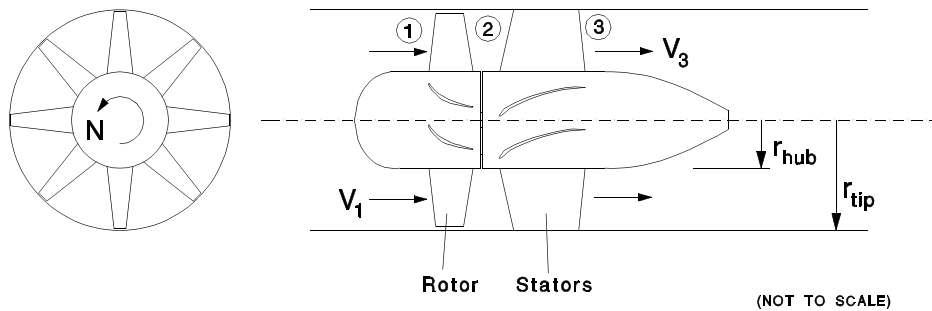

FIGURE 1
- 5.9 Figure 1 shows an axial-flow fan operating in a duct. The flow rate of air through the fan is $250 \text{ ft}^3/\text{sec}$. The changes in density of the air through the fan are negligible and the density is $0.077 \text{ lb}_m/\text{ft}^3$. The fan speed N is 1000 RPM. Perform the calculations for the mean radius of the fan, r_m , and assume that conditions there represent a reasonable average for all of the flow passing through the fan. That is, assume 1-D flow through the fan at the conditions which exist at the mean radius: